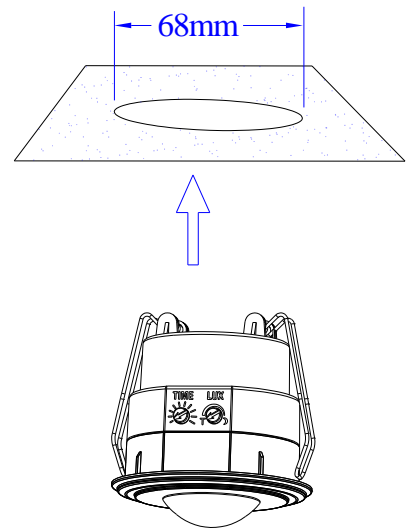

FIGURE 5
- (4) In order to install the sensor to the ceiling, drill a diameter of 68mm round hole on the ceiling. Wedge the main body into the round hole directly. (FIGURE 5)